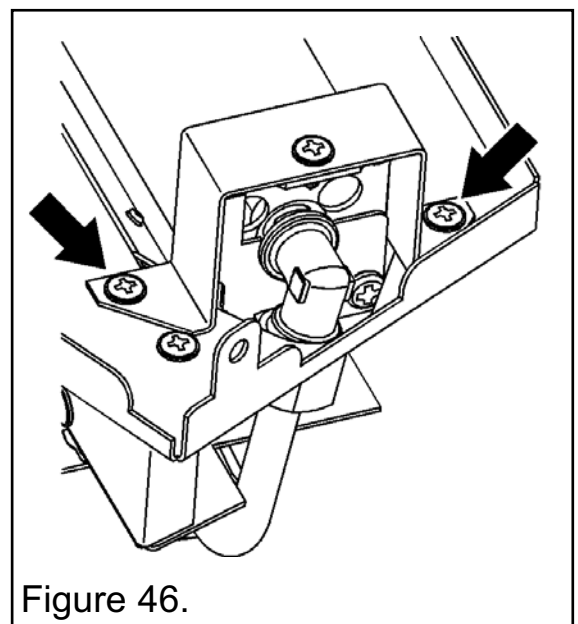

Figure 46.
4. Remove the two screws from the burner clamping plate (See figure 46)